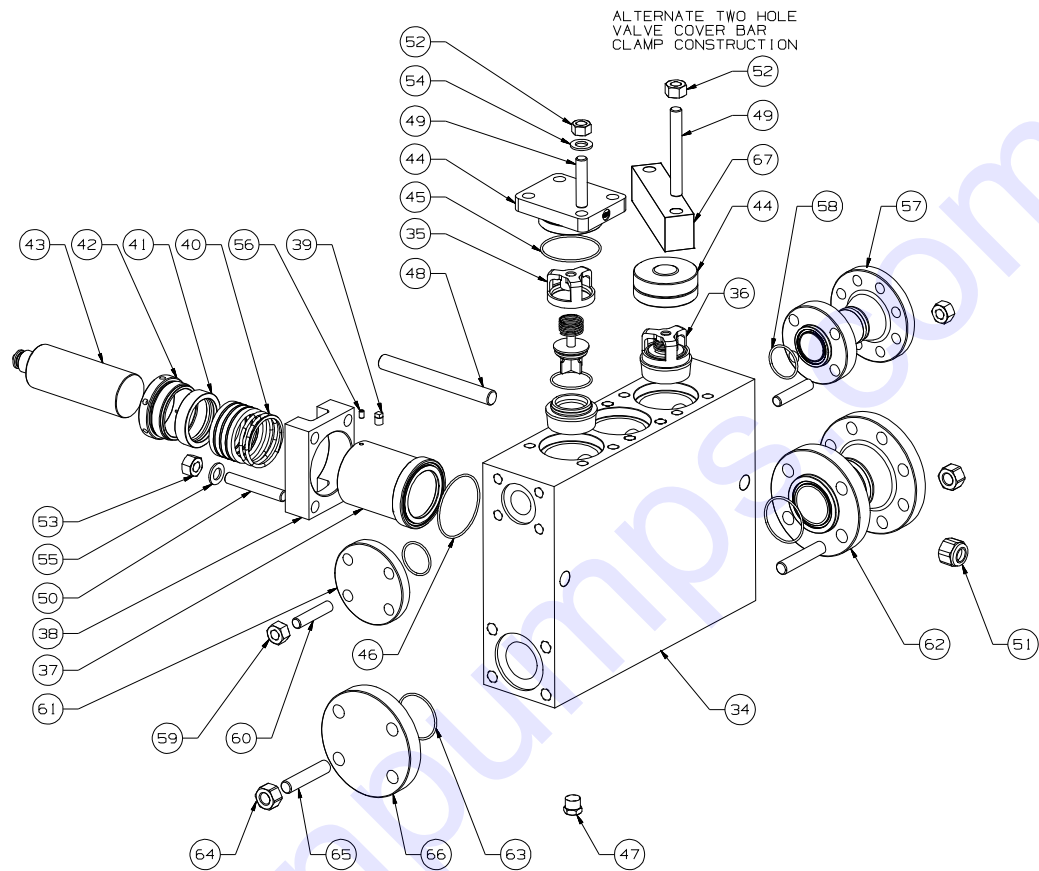
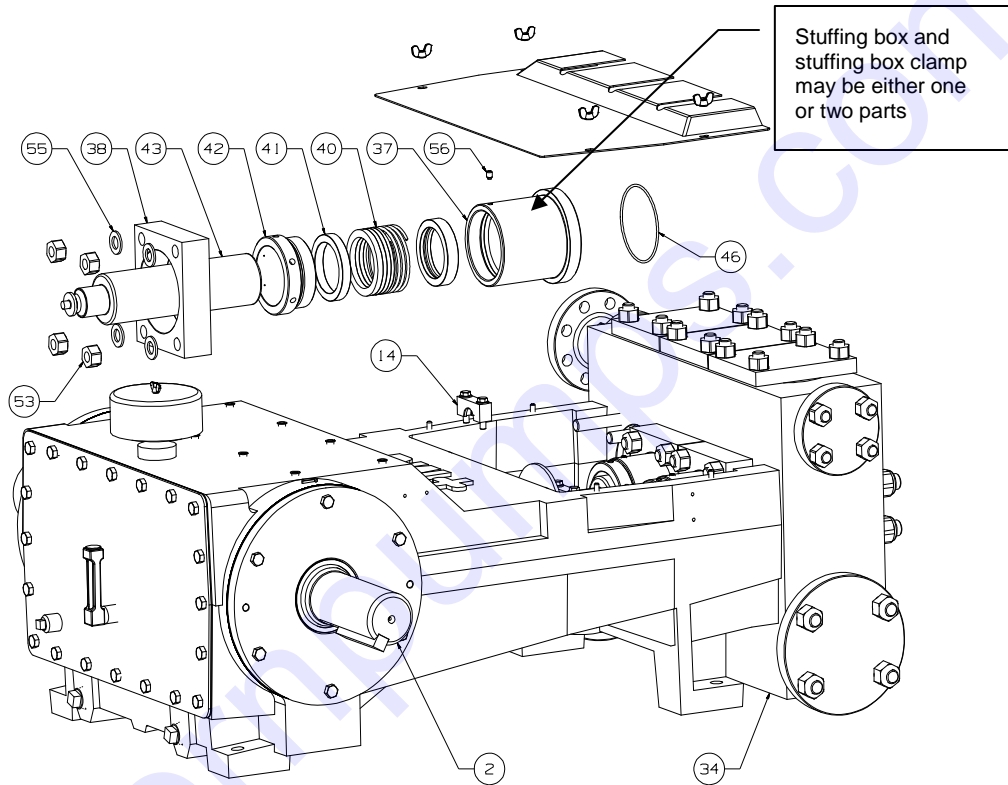

Figure 3: Fluid End Components
Figure 4: Plunger and Packing Removal
2. Refer to Figure 3 or Figure 4 for location of components. Unbolt the plunger clamps (14) and remove them from the plungers (43) and plunger rods (6). Removal Tip: If the plunger does not separate from the plunger rod (stuck together), place a wrench extension or rod between the plunger and the power frame. Rotate the crankshaft to move the plunger rod away from the plunger.
3. Loosen the set screw (56) locking the threads on the adjusting nut (42). Turn the adjusting nut counterclockwise to loosen. Use caution if the packing (40) is spring loaded. The adjusting nut will come off suddenly from the stuffing box due to spring force.
4. Remove the nuts (53) holding the stuffing box (37) or stuffing box clamps (38) to the fluid cylinder (34) to allow removal of the stuffing boxes from the fluid cylinder counterbore. Rotate the crankshaft (2) by hand until one of the plunger rods (6) is fully retracted from the plunger (43) and push the plunger forward into the stuffing box to provide adequate clearance for removal. Removal Tip: Backing the plunger rod away from the plunger and adding a short rod such as a wrench extension located between the plunger and plunger rod will push the plunger further into the stuffing box and fluid cylinder. It may be necessary to hit the stuffing boxes with a rubber mallet to free them from the fluid cylinder counterbores.
5. Slide the plunger and stuffing box out of the cradle of the pump as a single unit. Repeat this procedure for the other two plunger and stuffing box assemblies. Be careful not to lose the o-rings (46) that seal the stuffing box.
7. Remove the packing (40) by tapping out with a brass bar or by bumping the stuffing box on the table. Observe the type and orientation of packing components during removal. V-ring orientation, if V packing is installed, is critical to proper operation. The lips of the "V" must face the fluid cylinder (34) toward the pressure side. Braided packing requires that the cuts in the rope are staggered at approximately 120° apart at installation.
8. Clean stuffing box bore and junk rings (41) such as throat bushing or lantern ring with 60 grit emery cloth and solvent. Clean plungers (43) with steel wool or solvent and a soft cloth. Clean other parts such as springs and adjusting nuts as required with a wire brush.
11. Reverse the previous steps to rebuild the pump after damaged components have been replaced. FMC suggests that all seals or gaskets that are disturbed during a service procedure be replaced. This includes the stuffing box face seal o-ring (46). Insure that all fasteners are tightened to the values specified in Fastener Torque Requirements, Section 11.0 of this manual.